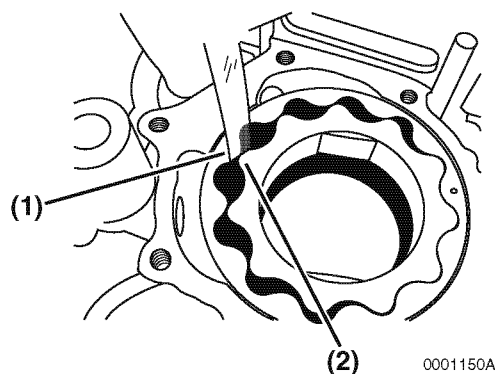

Figure 9-9
Determine the outer rotor to inner rotor tip clearance. Insert a feeler gauge between the top of an inner rotor tooth (**Figure 9-9, (1)**) and the top of an outer rotor tooth (**Figure 9-9, (2)**) and measure the clearance.